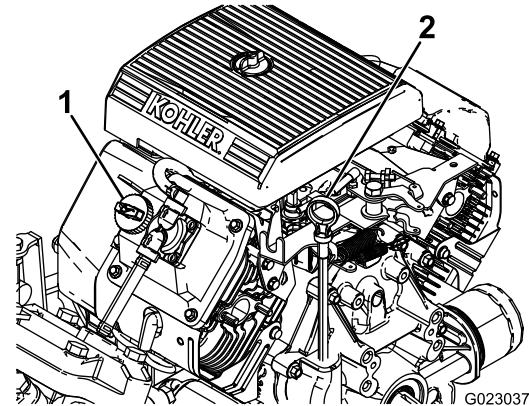

Figure 11
2. Remove the dipstick and wipe it with a clean rag (Figure 11).
4. If the oil level is low, remove the filler cap from the valve cover (Figure 11) and pour oil into the opening until the oil level is up to the FULL mark on the dipstick; refer to Servicing the Engine Oil \(page 43\) for the proper oil type and viscosity.